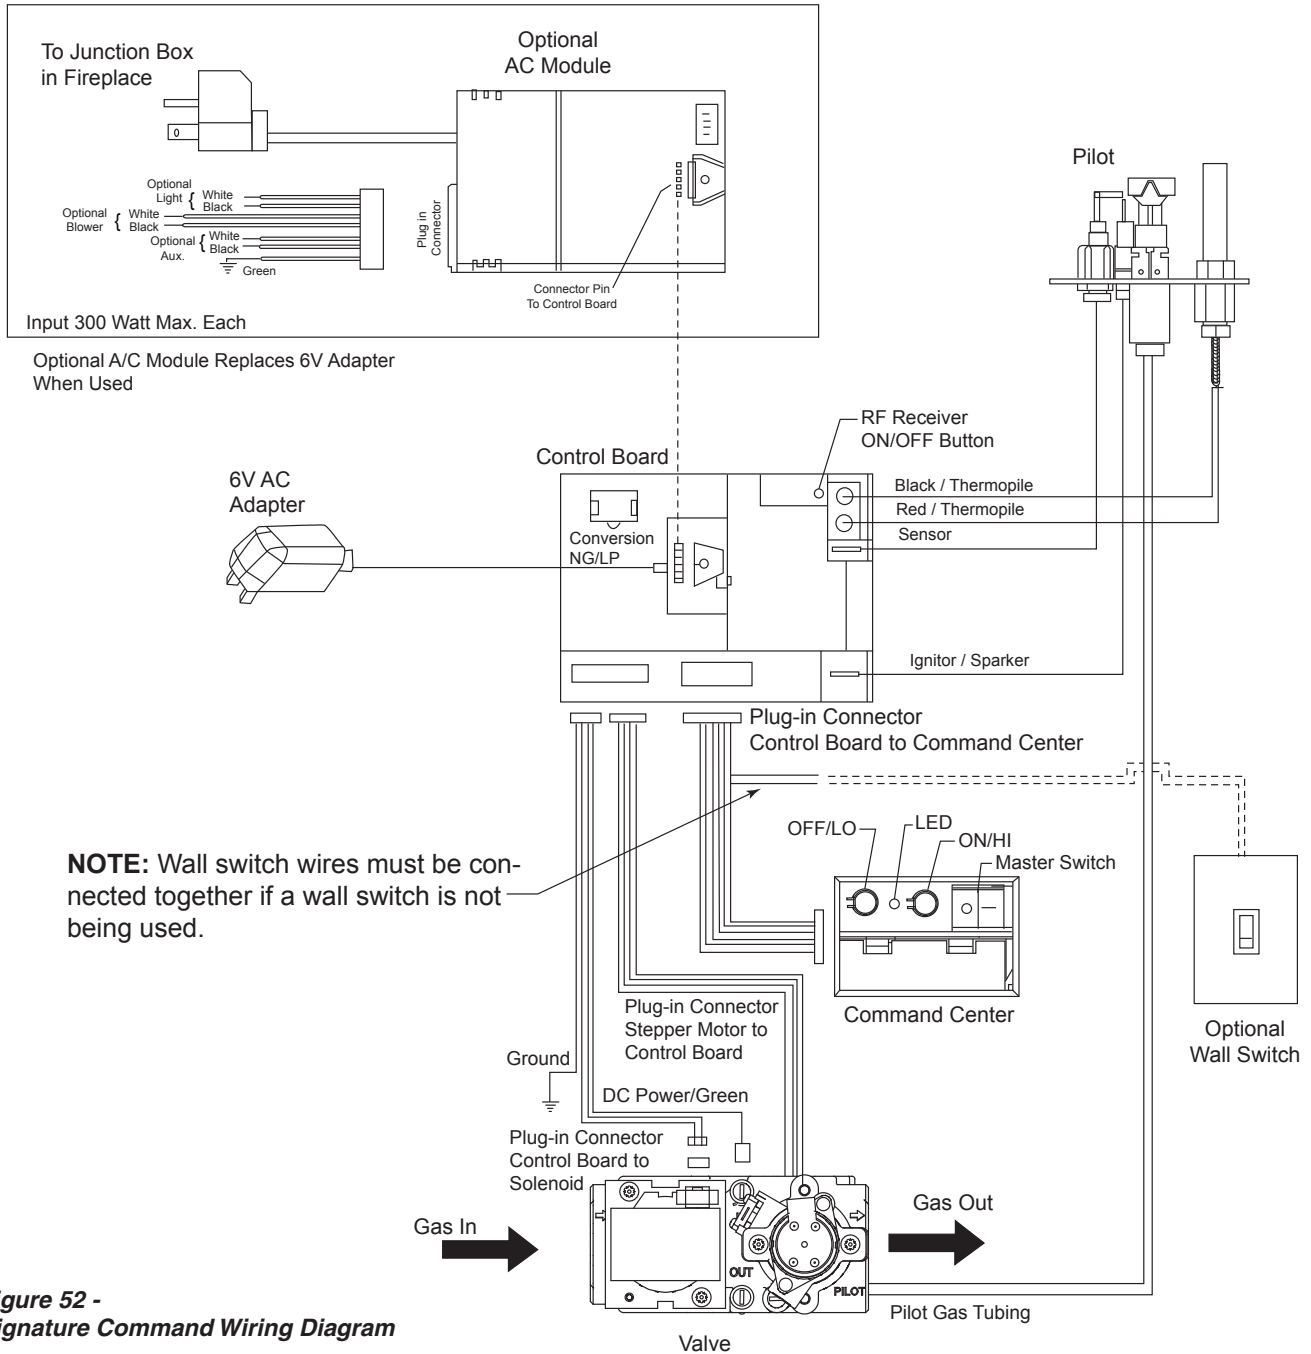

Figure 52 - Signature Command Wiring Diagram
The wall switch wire connection is located off the 2 ft. wire harness from the control box to the command center. *Figure 52*. The connection is labeled "Wall Switch". Unplug the male and female connectors and connect the two (2) low voltage wires provided. Run wire to desired location on wall. Up to 50 ft. of 18 ga. wire may be used if necessary. Attach wires to wall switch. Mount the wall switch in to junction box and screw on cover.